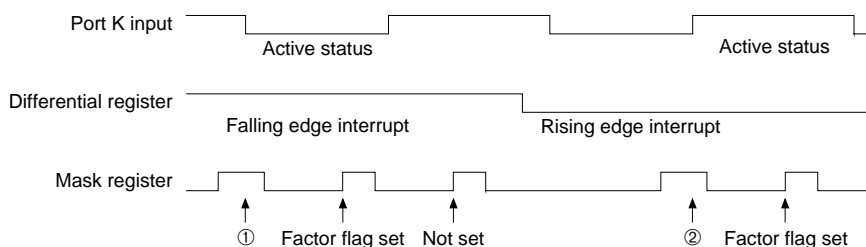

Fig. 4.4.4
When an interrupt is triggered at the falling edge of an input terminal, a factor flag is set with the timing of ① shown in Figure 4.4.4. However, when clearing the content of the mask register with the input terminal kept in the Low status and then setting it, the factor flag of the input interrupt is again set at the timing that has been set.
When an interrupt is triggered at the rising edge of the input terminal, a factor flag will be set at the timing of ② shown in Figure 4.4.4. In this case, when the mask registers cleared, then set, you should set the mask register, when the input terminal is in the Low status. In addition, when the mask register = "1" and the content of the differential register is rewritten in the input terminal active status, an input interrupt factor flag may be set. Thus, you should rewrite the content of the differential register in the mask register = "0" status.
- (4) Reading of interrupt factor flags is available at EI, but be careful in the following cases.